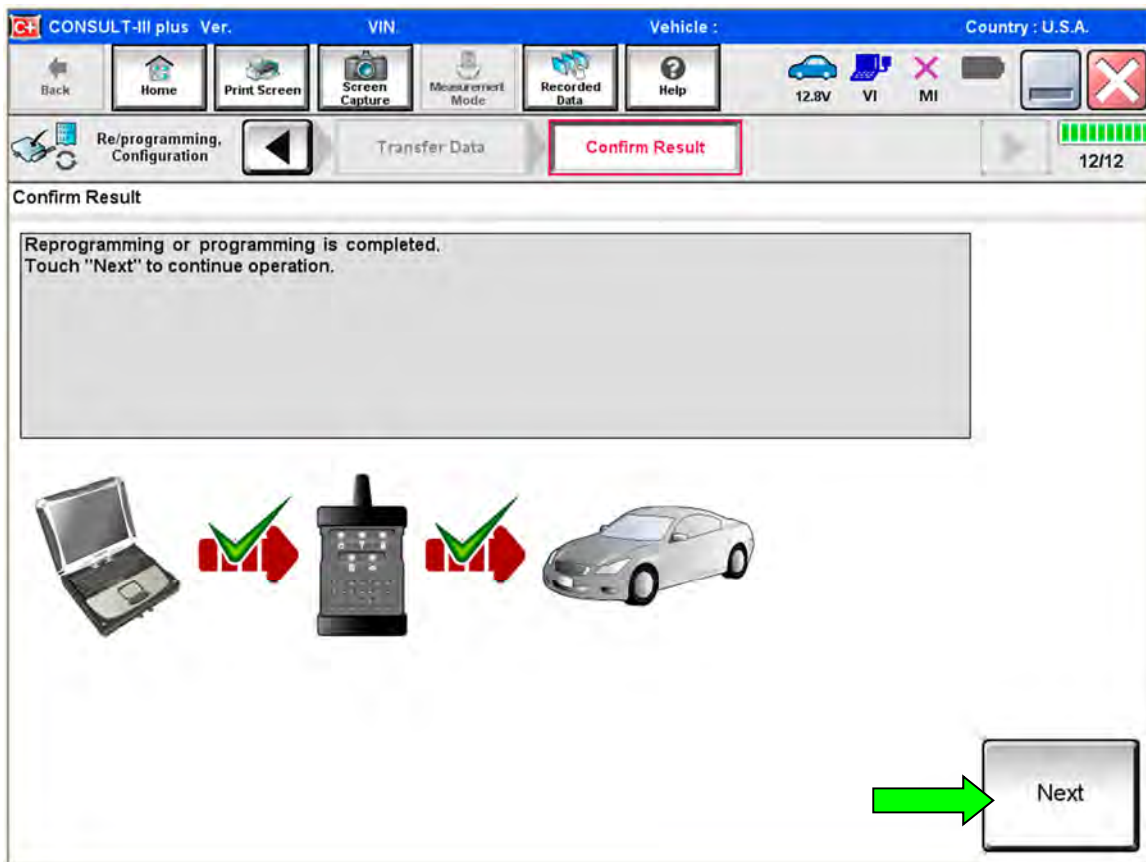

Figure 169
143. When the screen in Figure 169 displays, reprogramming is complete. Disconnect the battery maintainer/smart charger from the vehicle.
**HINT:** If the screen in Figure 169 does not display (indicating that reprogramming did not complete), refer to the information on the next page.